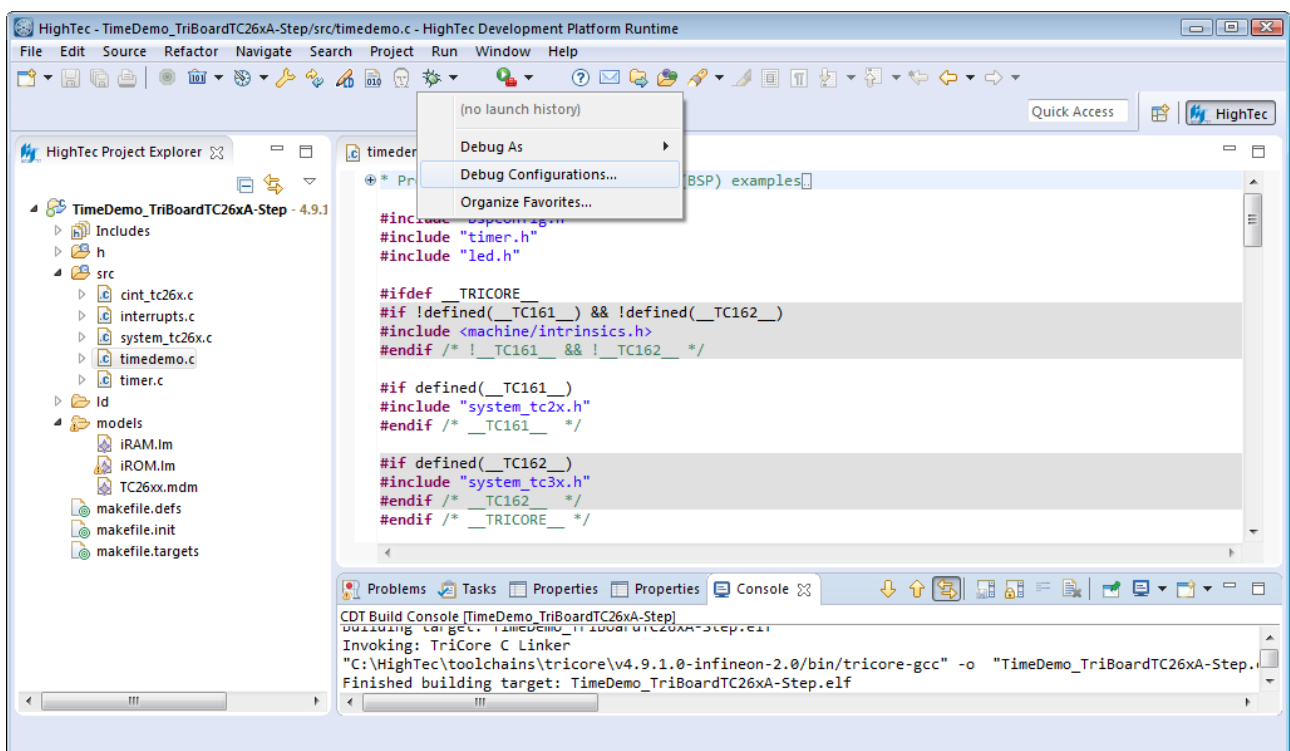

Figure 30 Select Debug Configurations dialog via Debug button
1. Click at the debug button  and select **Debug Configurations ...** (Figure 30).